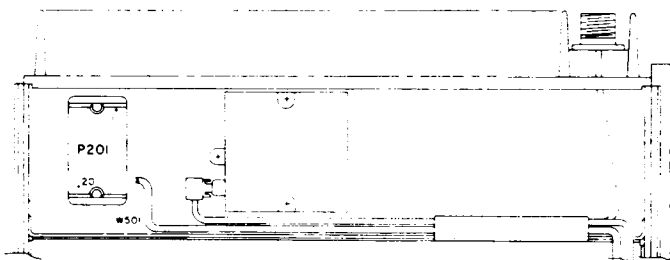

Figure 2 - Location of P201
5. Key the transmitter and carefully adjust R9 for a VOM reading of 13.0 volts as measured from P201-9 to P201-13 (ground) as shown in Figure 2.